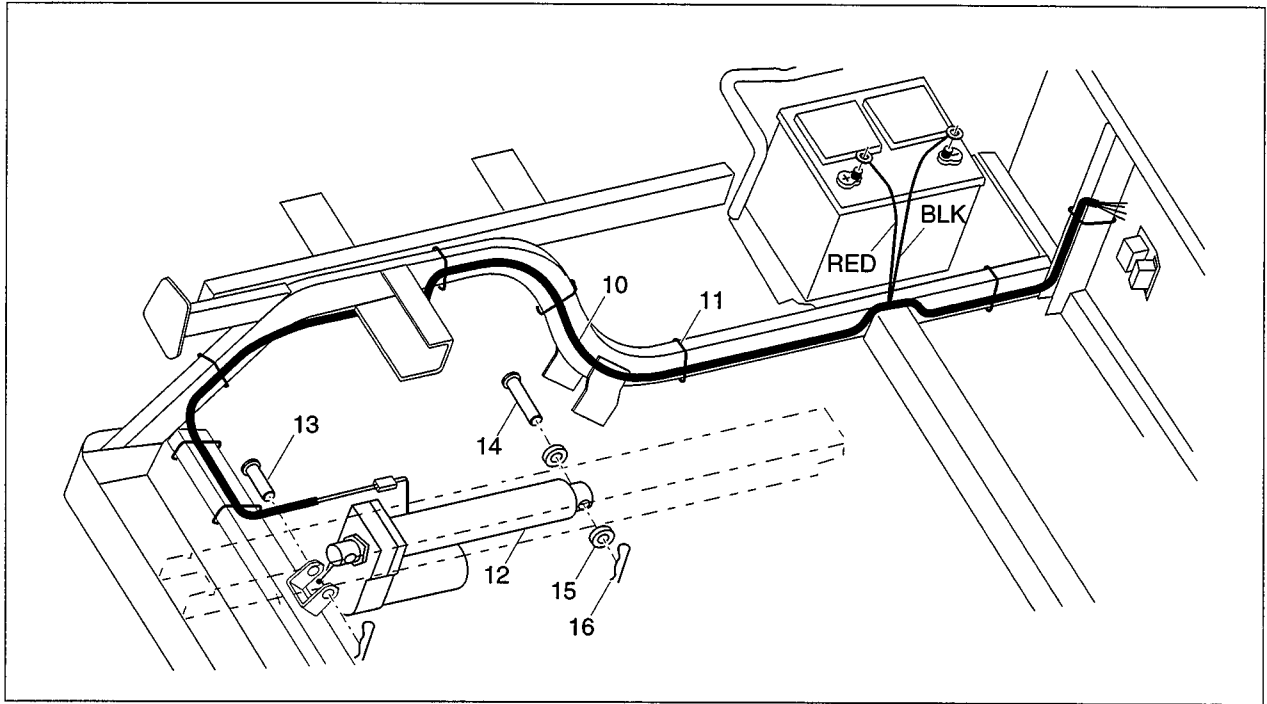

Fig. 5 Control Harness Routing
B. CONTROL HARNESS ROUTING (See Fig. 5)
1. Route the control harness (Item 10), beginning at the toggle switch, down the seat frame support on the driver side of the vehicle as illustrated in Fig. 5. **Leave enough slack in the control harness for connecting terminals to toggle switch.**
2. Secure the control harness to the seat frame support with a nylon clamp (Item 11) as shown in Fig. 5.
4. Secure the control harness to the frame using nylon clamps in the locations shown in Fig. 5